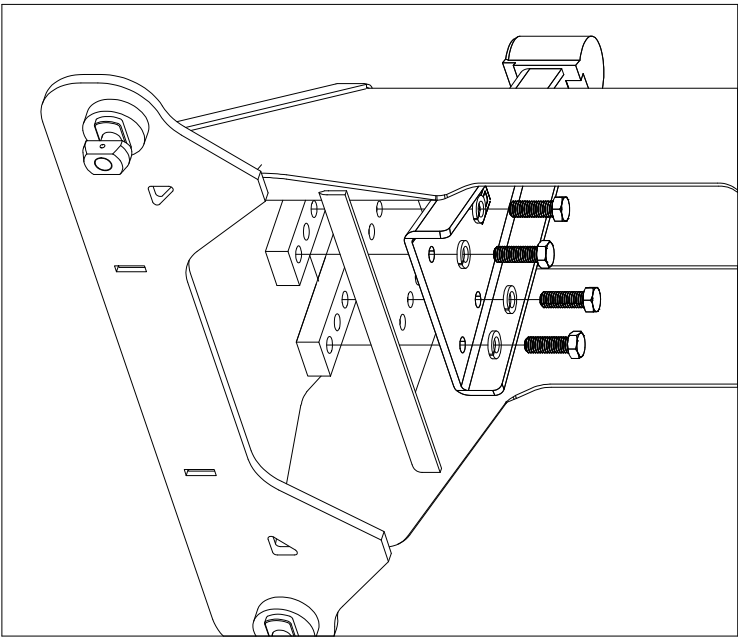

Figure A2: Passenger pivot arm mounting location.
2. **Secure arms.** Locate both pivot arms, the four threaded blocks, eight 1/2" cap screws, and eight 1/2" split lock washers. Place the lock washers over the cap screws. Align the flat side of the pivot arm flat against the bolt plate and install four 1/2" cap screws through the holes on the arm, holding the arm in place, as shown in Figure A2. Pass the threaded blocks under the bases side and align the block with each set of screws and start each screw, as shown in Figure A2. After all the screws are started through the arms, torque each bolt to 110 ft-lbs.